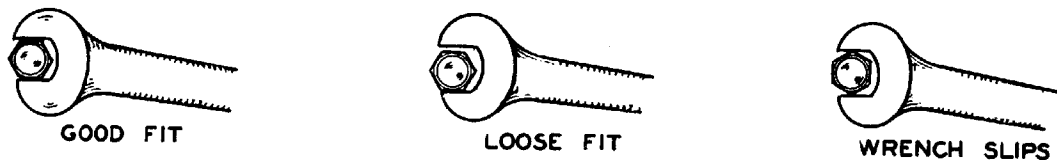

FIG. 8 OPEN END WRENCHES
1. Select a wrench that fits the work closely (Figure 8).